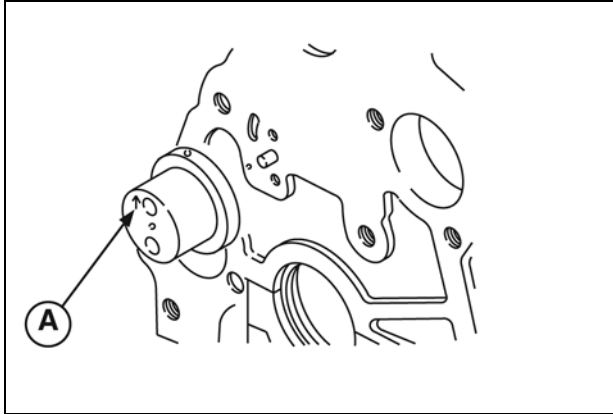

Figure 18
6. Assemble idler gear shaft with arrow up (**A**, Figure 18).